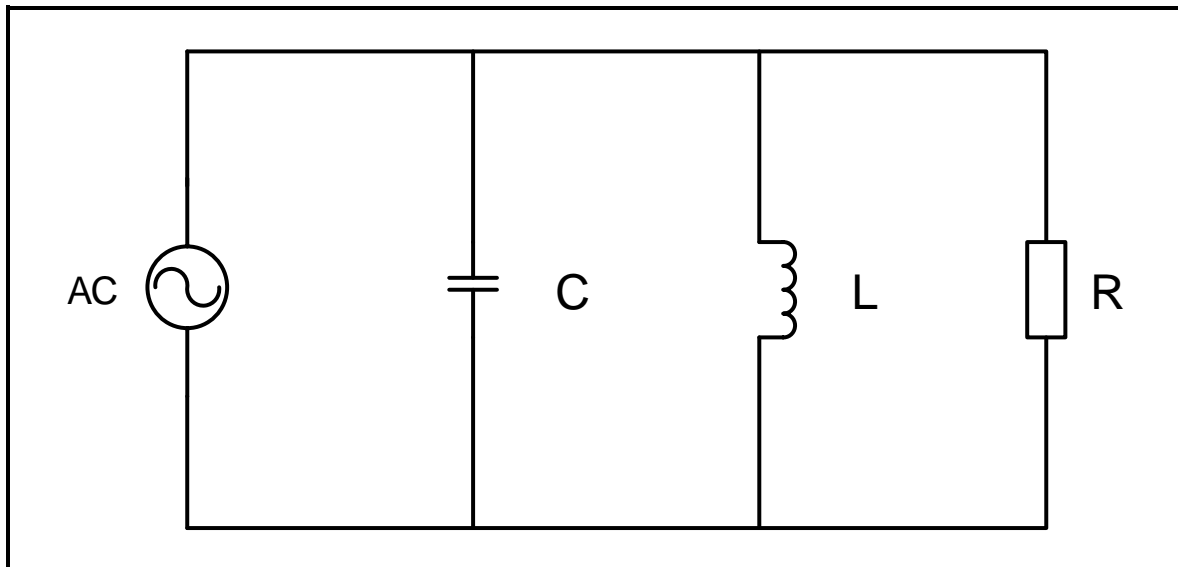

FIGURE 3.4 A: PARALLEL RESONANT CIRCUIT
3.4 Refer to FIGURE 3.4 A and FIGURE 3.4 B below to answer the questions that follow.